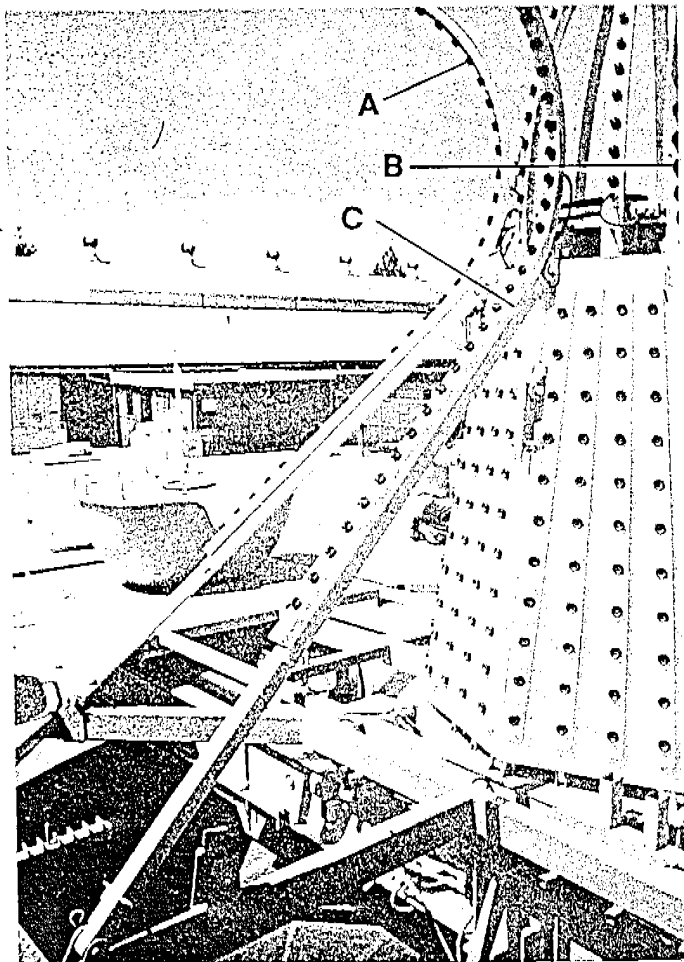

Fig. 49
- (2) Rear-side (b)
- (3) Center-side (c) (Fig. 49)